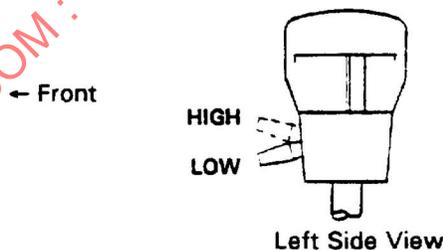

FIGURE 1—RANGE SHIFT CONTROL
- 3.2.1 **RANGE SHIFT CONTROL**—Located on front of shift control. Operates in the vertical plane (parallel to the lever) with the up position providing high range and down position providing low range (see Figure 1).